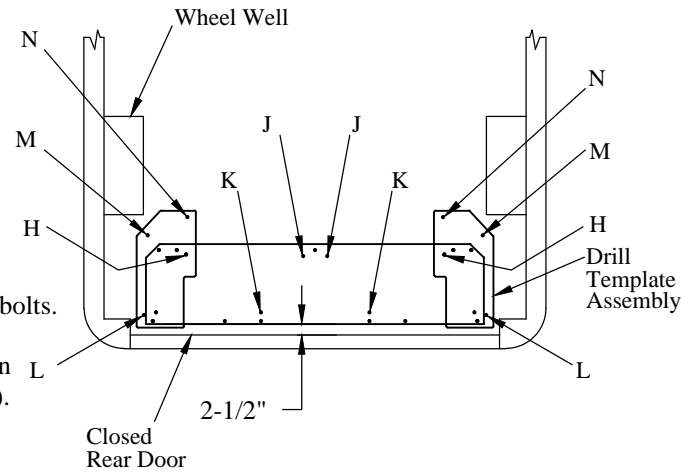
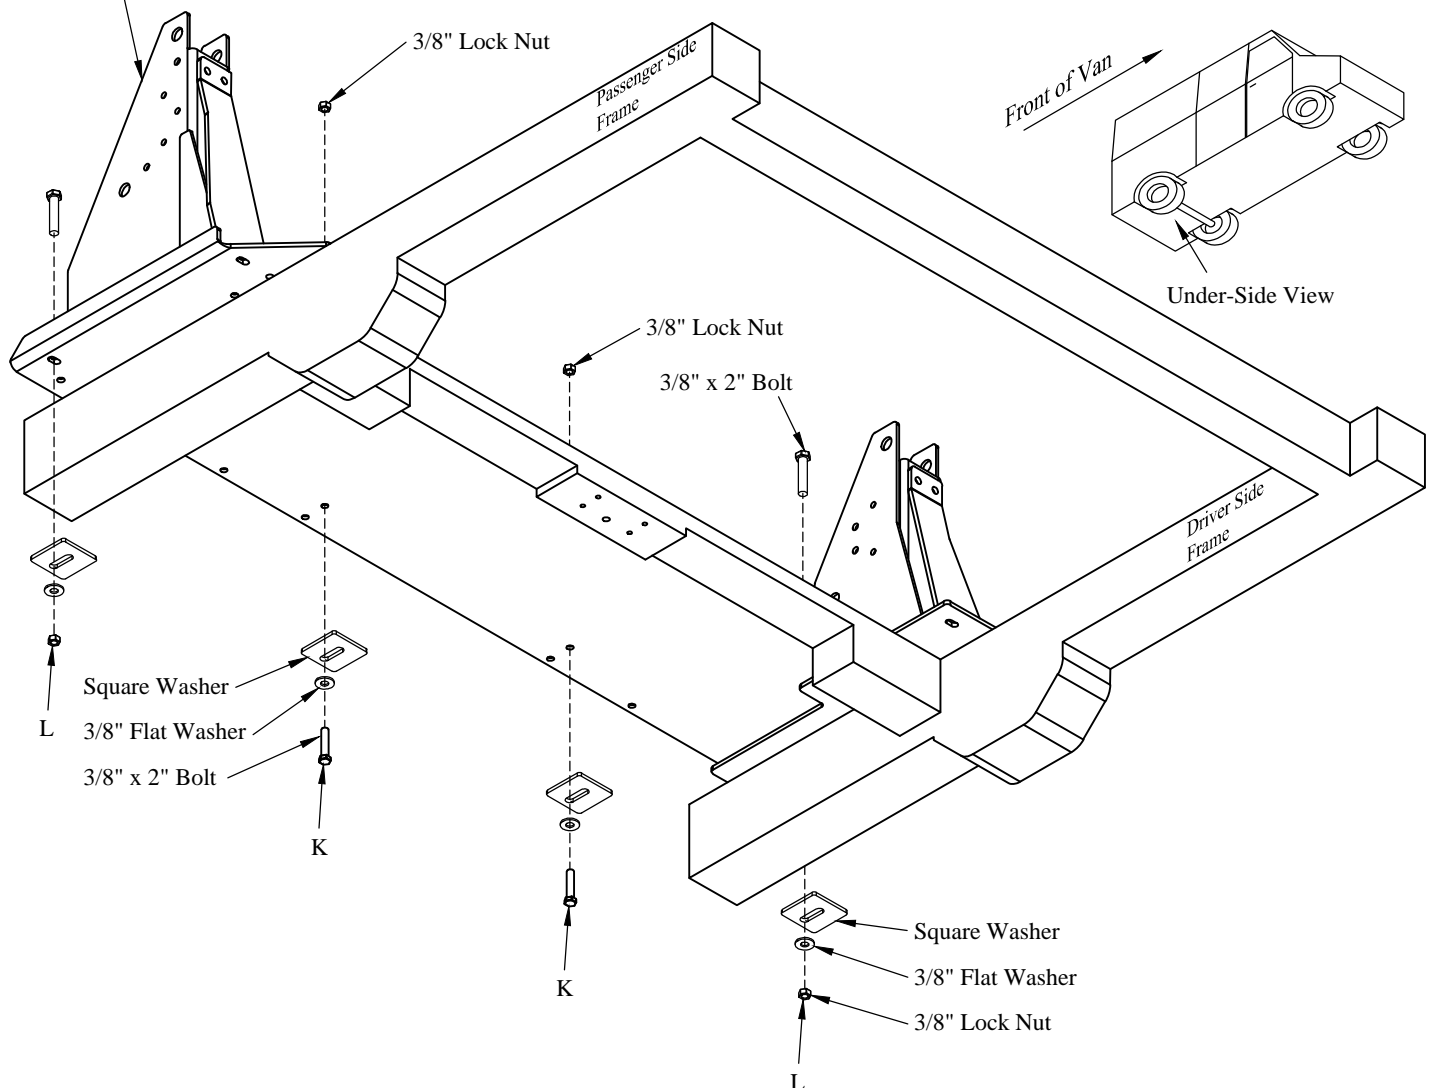
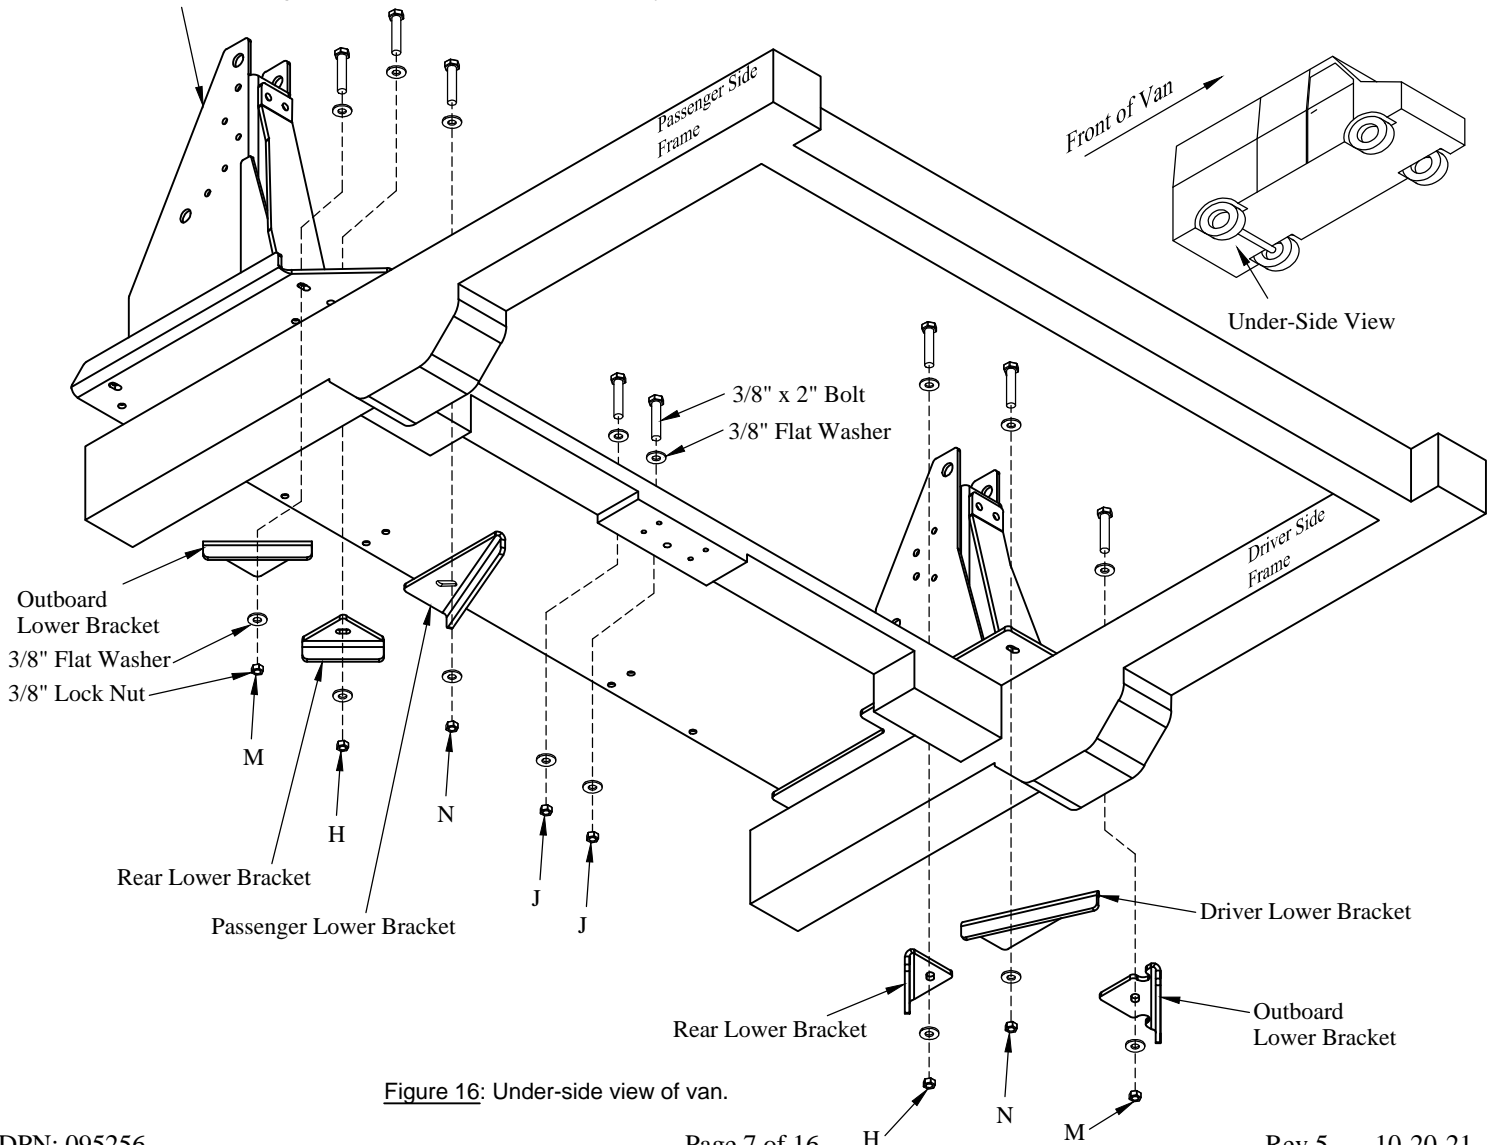

Figure 14: Bolt locations (top view).
Figure 15: Under-side view of van.
Figure 16: Under-side view of van.
4. **Install** two (2) 3/8" x 2" bolts with 3/8" flat washer and square washer at "K" locations in the base plate, up from the bottom of the van floor (Figure 14 and Figure 15).
6. **Insert** two (2) 3/8" x 2" bolts at "L" locations in the base plate, down through van floor (Figure 14 and Figure 15).
8. **Place** a 3/8" flat washer on remaining eight (8) 3/8" x 2" base plate bolts.
9. **Insert** eight (8) 3/8" x 2" bolts at "H", "J", "M", and "N" locations in the base plate, down through van floor (Figure 14 and Figure 16).